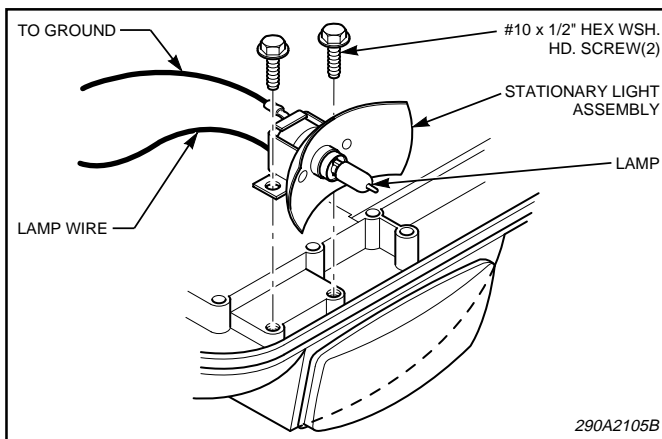

Figure 2.
- a. See figure 2. Place the stationary light assemblies in position at the desired locations.
- b. See figure 2. Secure each assembly in position using two #10 x 1/2" hex head thread-forming screws. Torque the screws to 30 - 55 in-lbs.